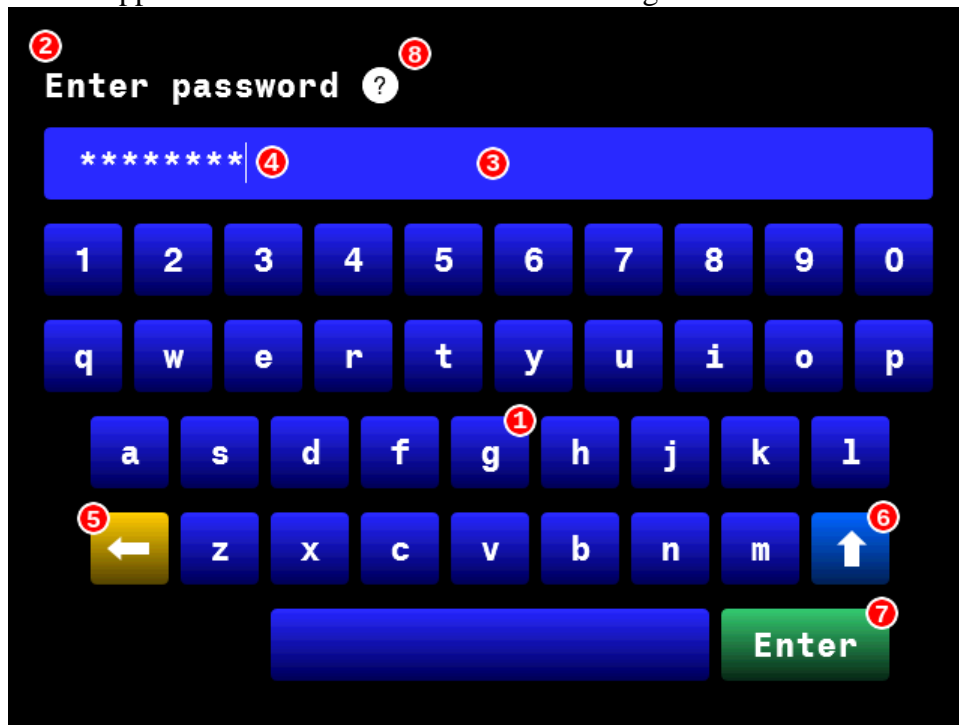

Figure 2.1 Authentication screen diagram
2.2.1. Authentication: when the generator/controller powers on, the first screen to appear is the authentication screen. See Figure 2.1.